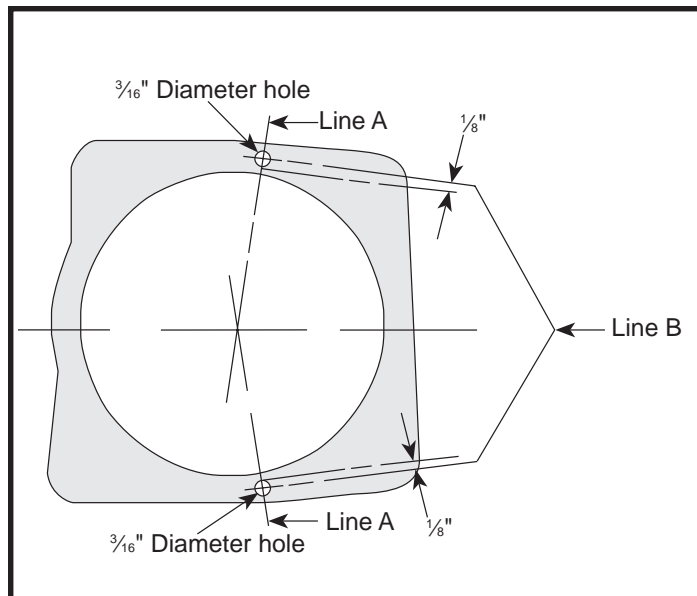

Figure 1
- A. Place cylinder with head gasket surface down on bench. Lay out lines "A" on cylinder base gasket surface so they are directly above centers of old oil return holes which exit into cylinder bore. **See Figure 1.**